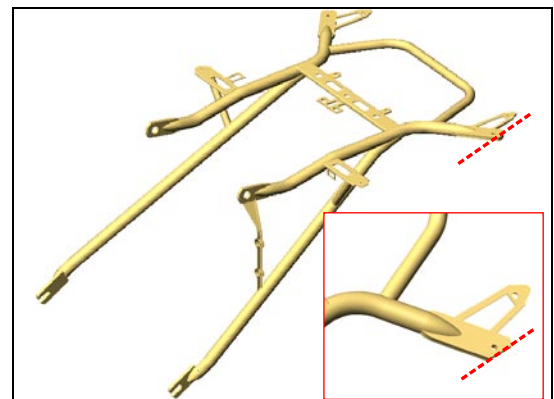

Figure 2
- b. Trim rear upper tube-end rounded corners just outboard of welded nut. Trim line should be parallel with center line of vehicle. This will provide clearance for body when installed. Figure 2 (Inset)